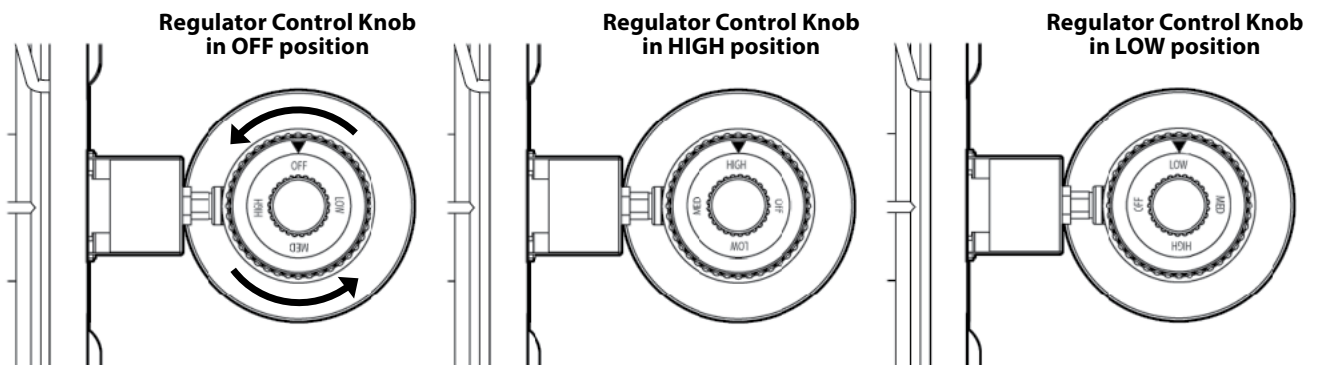

Fig. 2
2. Push the Regulator Knob in and turn 270 degrees (or 3/4 turn) counterclockwise to the High position (Fig. 2). Note the triangular indicator mark on the silver regulator housing.